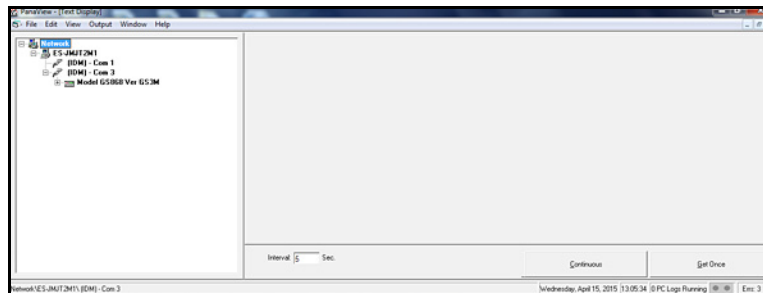

Figure 61: The Text Display Window
- Open the “Output” menu and click “Text Display” option (this menu is discussed in detail in Chapter 6. “Data Handling”) to open a window similar to Figure 61 on page 52. By default, this window is stacked on top of the previously visible “Meter Browser” window.
3. Using the “Window” menu, as described in “Multiple PanaView Windows” on page 49, arrange the open windows in the desired format. For this discussion, Figure 61 below shows the “Text Display” window in its maximized (full-screen) size.
Note: Figure 61 above has been compressed both vertically and horizontally for improved clarity.
5. Before actual data values can be displayed in the text pane, activate one of the following data collection modes (see Figure 61 on page 52):